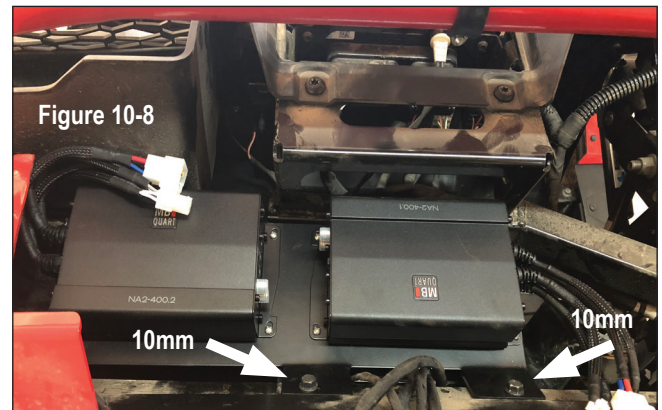

Figure 10-8
With the amplifier(s) mounted to the plate, place it into position as shown in Figure 10-8. Be sure there is free movement of the wiring harness with enough length to connect to the amplifier's onboard connectors.
- **if you have the Dynamix® ECU and/or OEM amplifier bracket** - Loosely fit the remaining two (2) 10mm bolts to check the fit of the dual amp plate. This is shown in Figure 10-8.
- **If NO Dynamix® ECU or OEM amplifier bracket** - Use the two (2) T40 screws provided with the MB Quart Stage 3 kit to check the fit of the dual amp plate.